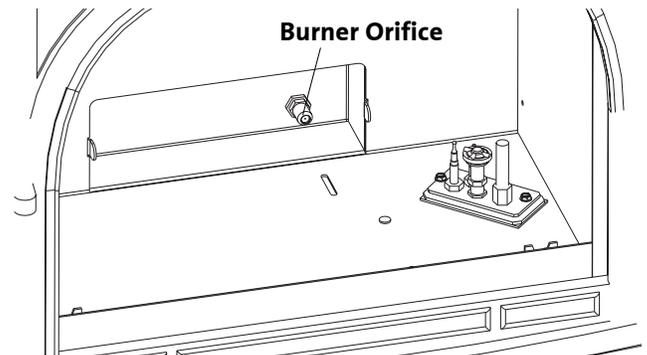
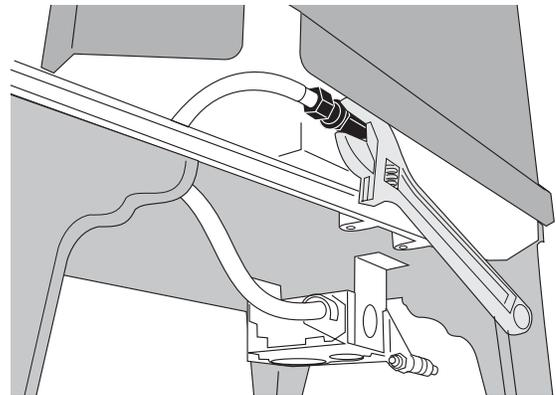

Figure 24. Change the Burner Orifice.
Figure 24a. Counter-lock the orifice elbow while removing the burner orifice.
8. Change the Main Burner Orifice. See fig. 24. Using a $\frac{1}{2}$ " open ended wrench or deep-well socket remove the burner orifice from its brass elbow housing and replace with the appropriate orifice supplied in the kit. While removing the orifice, use an adjustable wrench to counter-lock the orifice elbow at the back of the firebox as shown in fig. 24a.